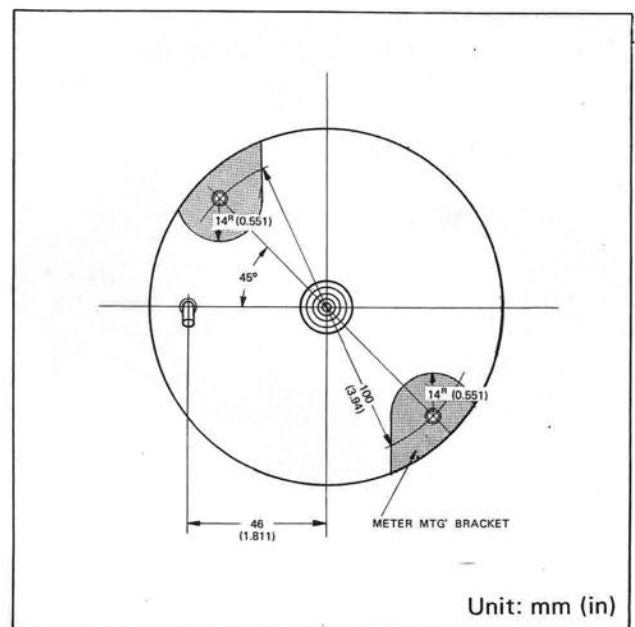

Fig. BE-15 Details of speedometer installation brackets
c. See Figure BE-15 for details of the speedometer support bracket and mounting bracket.